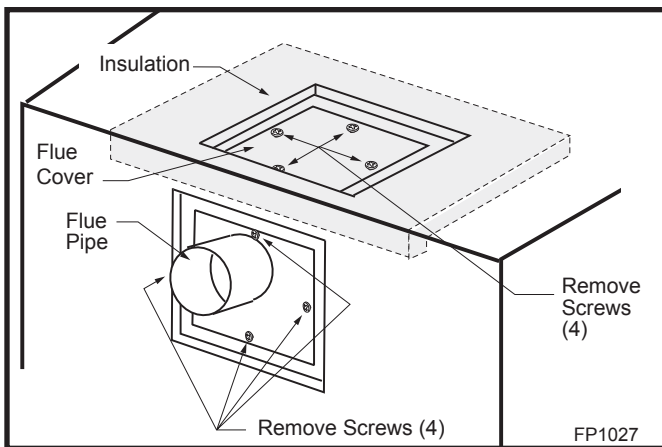

Fig. 12 Remove flue cover and flue pipe.
3. Remove insulation from top of unit and **discard**. Remove the four (4) screws securing flue cover to top of unit and remove flue cover. (Fig. 12)
4. Remove the four (4) screws securing flue pipe to back of unit. Remove flue pipe. (Fig. 12)